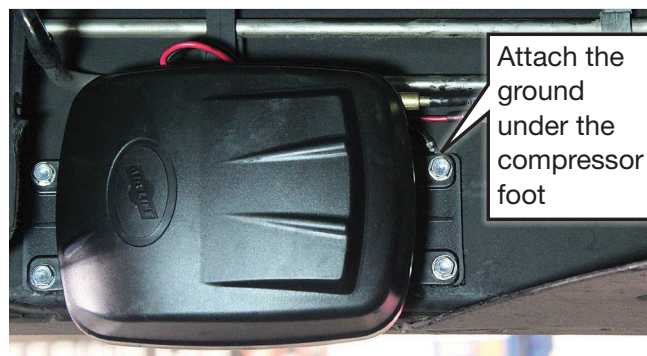

Fig. 17
1. The compressor (U) can be mounted in any orientation: sideways, upside down or top up.
3. The compressor ground wire must have a good connection to the frame (Fig. 17). It may be necessary to grind some paint or rust off the frame to make good contact.